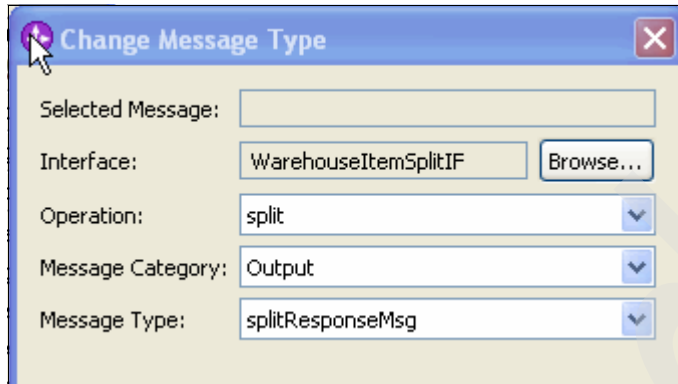

Figure 6-61 Selecting `splitResponseMsg` as XSL transformation output
- Click **Browse** to the right to the Output Message Body to select the `splitResponseMsg` (Output of the split operation, `WarehouseItemSplitIF` interface), as shown in Figure 6-61 on page 403.